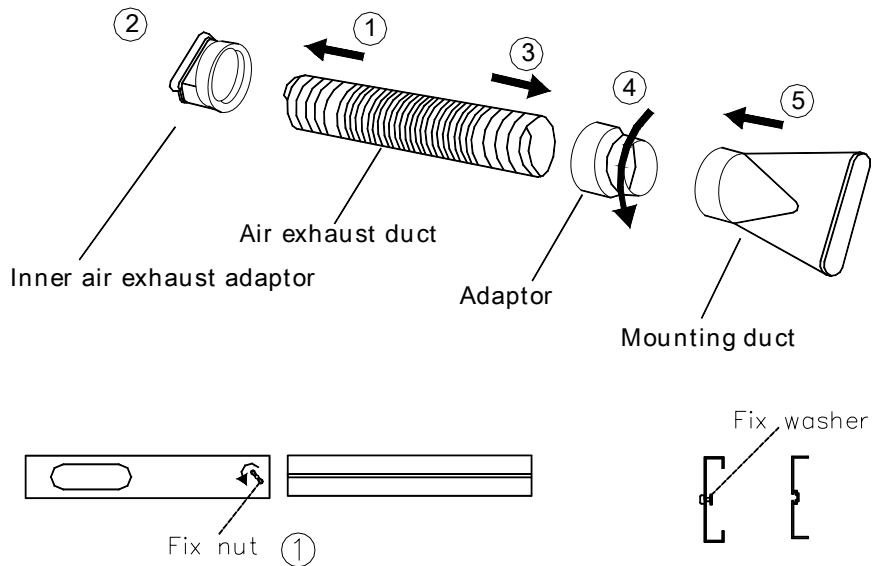

Fig 1
- Install the flexible exhaust hose and the adjustable window slider kit provided (**see Fig 1**).
Installation Accessories (See Fig 1):